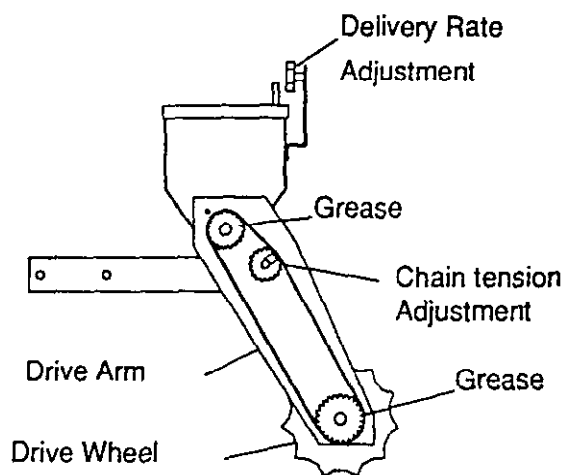

FIG. 4
5. Check regularly that the slide mechanism moves freely as the Drive Arm pivots up and down (See Fig. 4). As the unit is lowered the Drive Wheel comes in contact with the ground. It lowers until the Delivery Rate Handle (See Fig. 4) hits the adjustment tube for the desired setting. If the assembly doesn't pivot freely the amount of polymer being delivered may be affected. Check the slide for build up of dirt or debris.
1. **CHAIN TENSION:** The tension of the drive chain can be adjusted by moving the idler sprocket on the slot it is mounted (See Fig. 4). A 1/8" deflection is recommended. **DO NOT** over tighten, this will cause chain wear. Do not allow the chain to remain loose, this will cause sprocket wear.
2. **DELIVERY RATE:** The rate of polymer being planted is determined by the setting of the adjustment knob located by the arc decal(0-6) (See Fig. 4). Move the tube and knob to desired setting and secure.